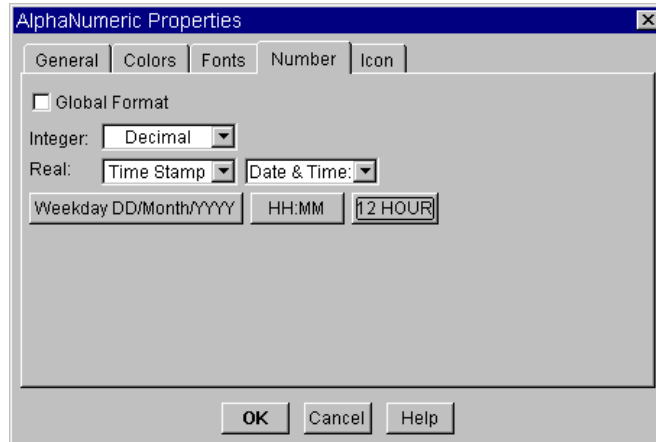

Figure 5-10. The AlphaNumeric Properties Box
8. Click `HH:MM:SS` to toggle to `HH:MM`. Click `24 HOUR` to toggle to `12 HOUR`. See Figure 5-10.